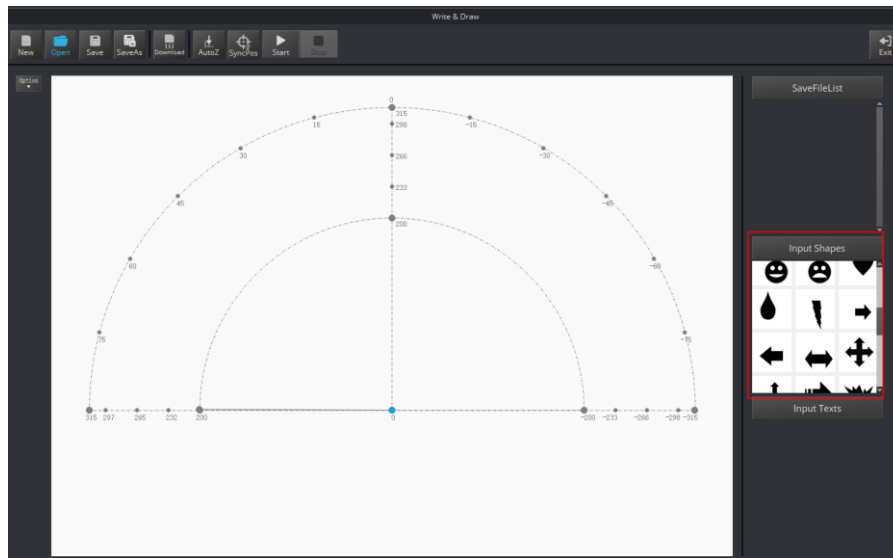

Figure 5.48 Insert a system image file
- Click a shape in the **Input Shapes** area, as shown in Figure 5.48.